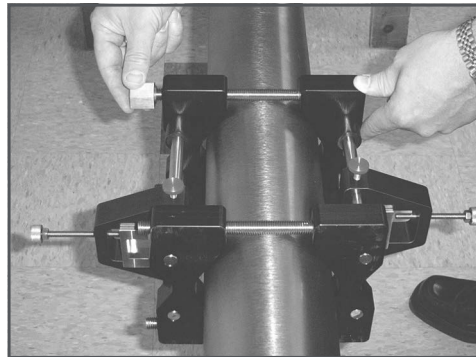

Figure 18: Installing Nuts onto the Fixture
3. Install the four nuts onto the threaded rods with the convex side of the nut facing the fixture. Hand tighten the nuts on each V block evenly, as shown in *Figure 18*. Do not use a cross tightening pattern on the four installation nuts.